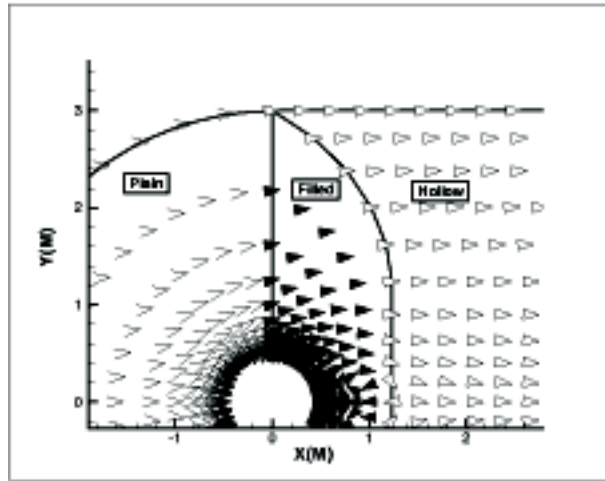

Figure 13-9. Arrowhead types for vector plots (plain, filled and hollow).
- **Arrowhead Style** - Specify the style of arrowheads to use. Figure 13-9 displays the available arrowhead styles.